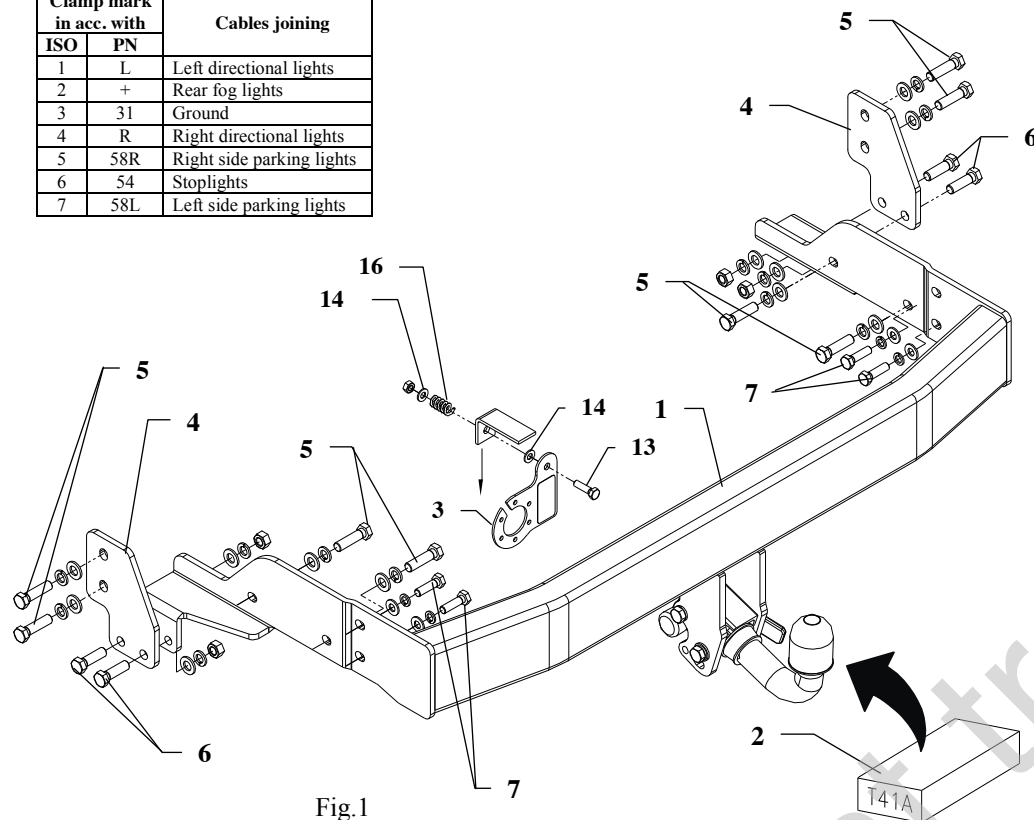
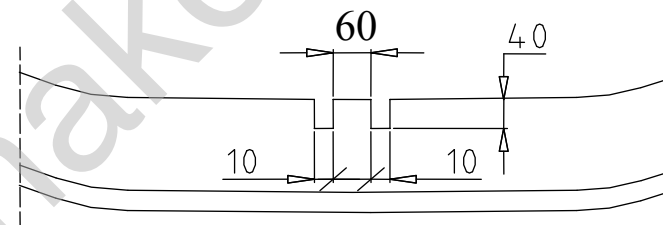

Fig. 1
Fig. 2
4. Put main bar (pos. 1) to frame of car in this way, so holes in towbar agree to original holes and fix all using bolts M12x45mm (pos. 5) and M10x1,25x35mm (pos. 7) – see figure 1.
5. Fish-plates pos. 4 put as shown in the figure and fix using bolts M12x45mm (pos. 5) and bolts M12x40mm (pos. 6).
6. Assemble bumper after cut out his fragment – see fig. 2.